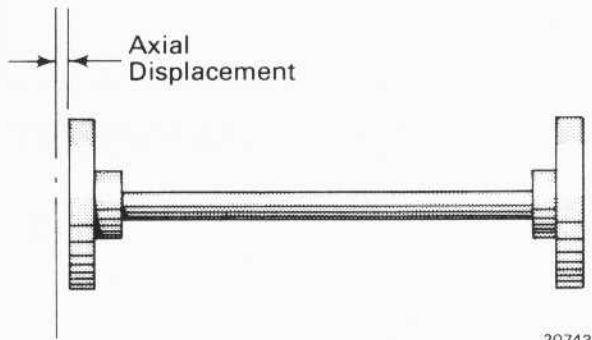

Fig.3 - Axial Misalignment
**AXIAL** - This dimension is measured back and forth along the rotating axis of the shaft. Axial misalignment, illustrated in Fig. 3, means that the position of the whole shaft must be shifted in the direction of its length. This dimension is usually used in reference to shaft thrust on an end bearing. The shaft, because of its offset position, causes an axial load on the bearing.